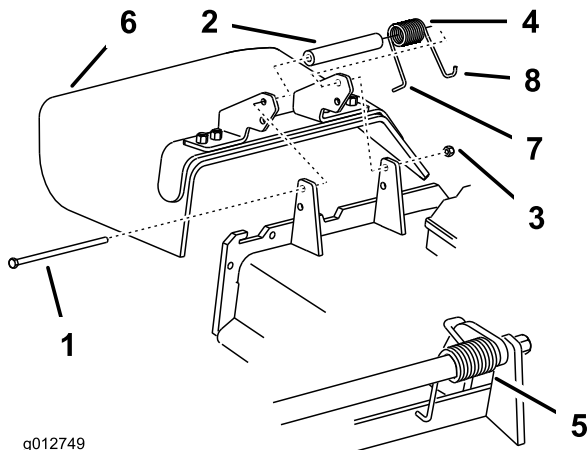

Figure 71
1. Remove the locknut, bolt, spring and spacer holding the deflector to the pivot brackets (Figure 71). Remove damaged or worn grass deflector.
Note: Make sure that the L-end of spring is installed behind deck edge before installing the bolt as shown in Figure 71.
3. Install bolt and nut. Place the **J** hook end of spring around grass deflector (Figure 71).